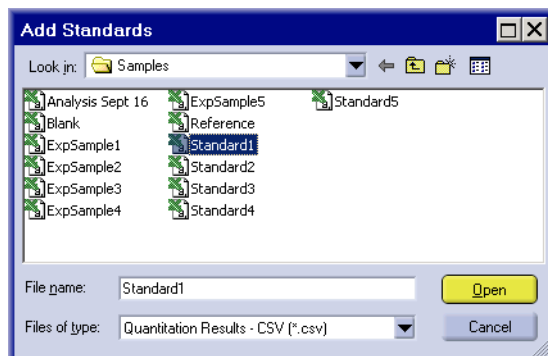

Figure 2-13 Add Standards Window
2. In the *Add Standards* window, select the first standard file, **Standard 1** as shown in Figure 2-13.